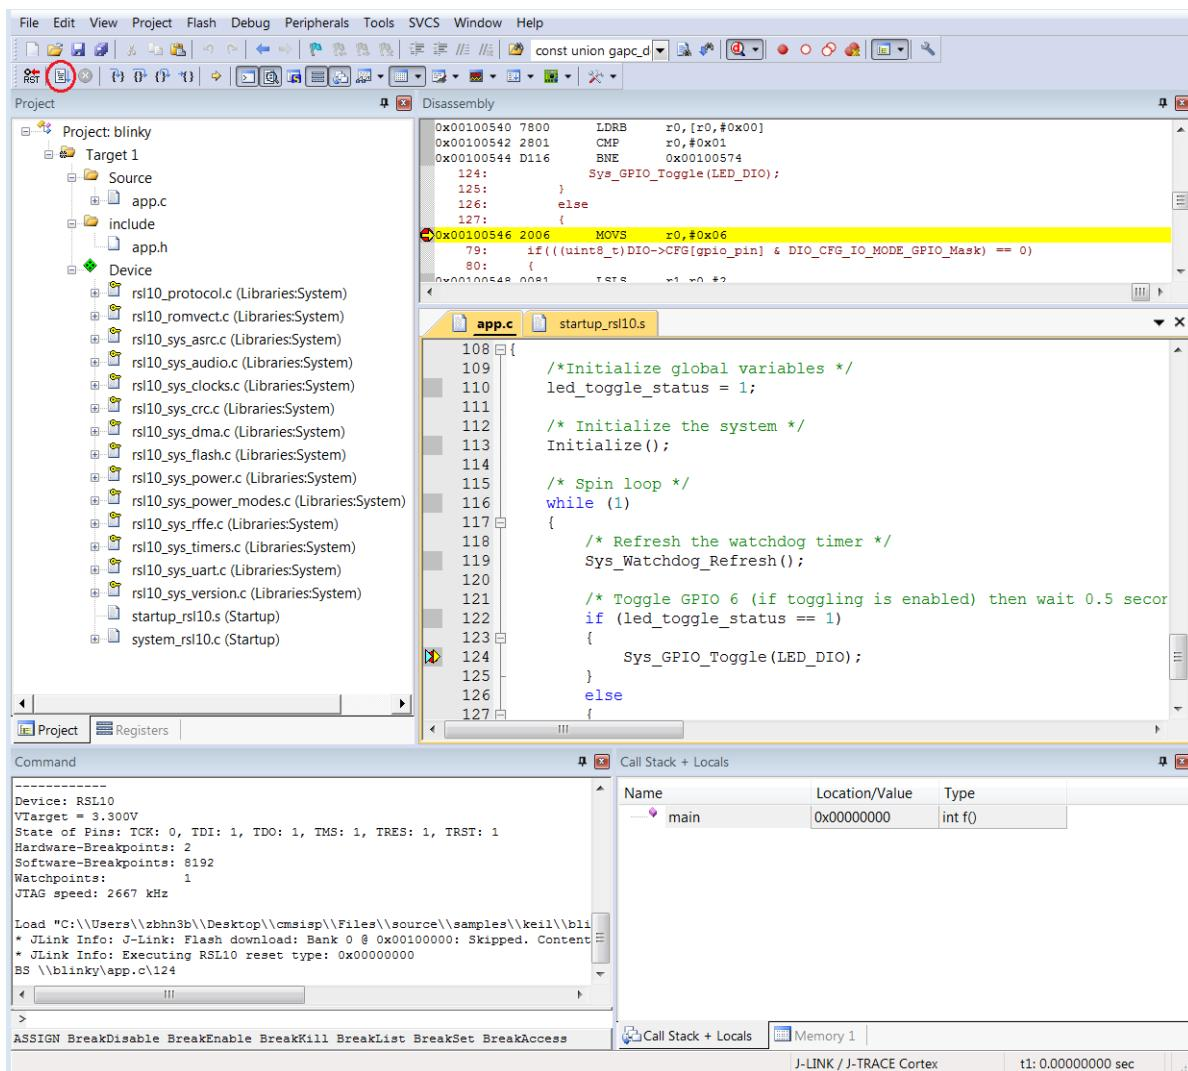

Figure 25. Debug Session in the Keil μ Vision IDE
3. The application runs up to the first breakpoint in *main*, as shown in Figure 25. You can press F11 multiple times to step through the code and observe that the LED changes its state when the application executes the function *Sys_GPIO_Toggle(LED_DIO)*.